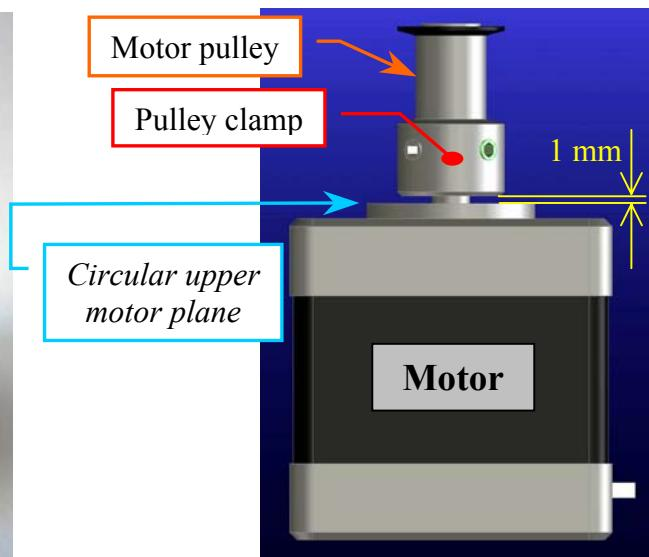

Fig. 16 – Plate Motor (scheme)
8. Position the motor pulley to **1.00 mm** with respect to circular upper motor plane (**Fig. 16**), then tighten the two pulley clamp set screws (**Fig. 14**).